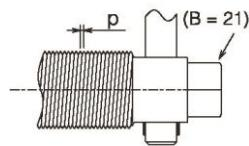

Fig. 3
3. A fine screw (automatic tightening) is used to apply a tightening force and also prevent the screw from slackening easily. (Refer to Fig. 3.)
8. The head of the screw has a hex hole for a ratchet spanner ($B = 21$). This enables you to install the clamp in a confined space without using the handle. (Refer to Fig. 3.)
9. You can use the clamp on a load whose grip surfaces are inclined at an angle of less than 10° with respect to each other (8° I-beam). Refer to item 8 of "Precautions for use."